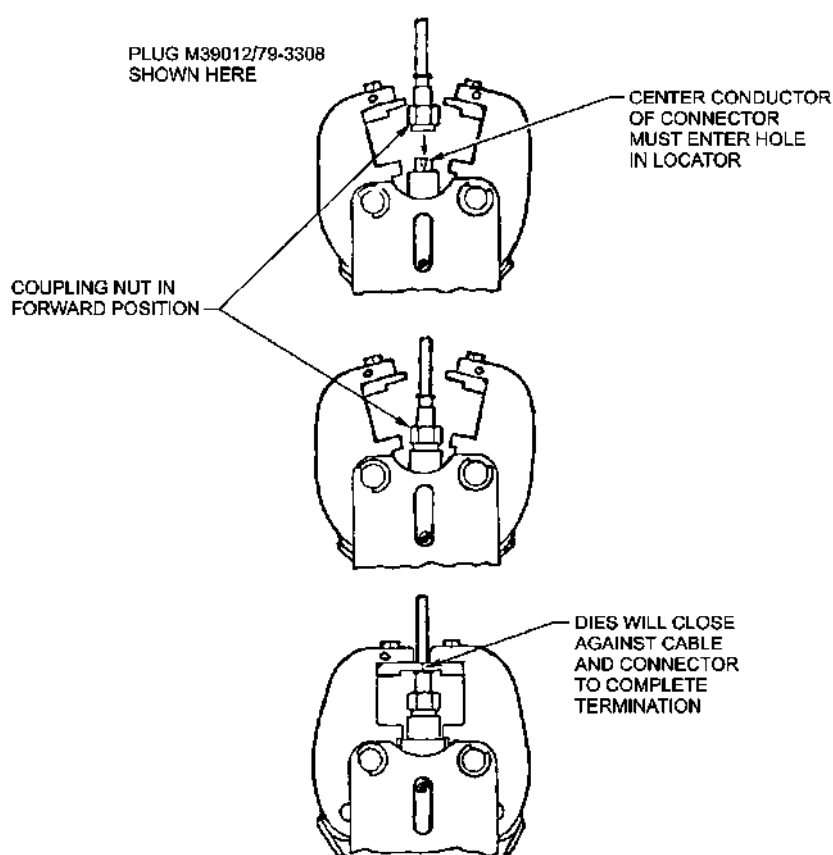

Figure 12-59 Plug Termination
46. Refer to Figure 12-59 (plug termination) or Figure 12-60 (jack termination), then proceed as follows: